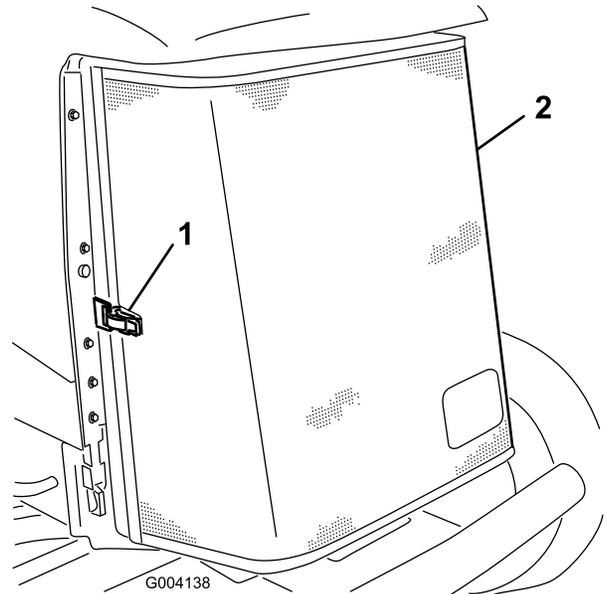

Figure 94
5. Unlatch the rear screen and pivot it open (Figure 94).